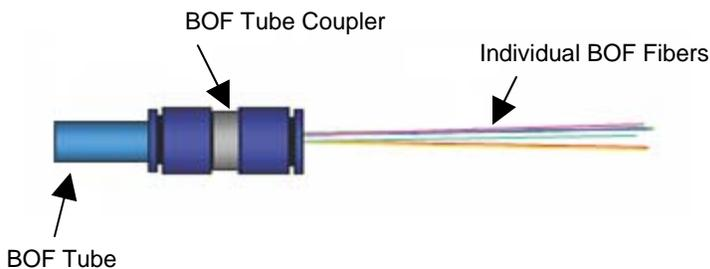

Figure 1
Step 1 – Insert the individual fibers or bundled fiber into the tube coupler. Slide the tube coupler over the fibers/bundle to the BOF tube. Slide the tube coupler onto the BOF tube and seat it firmly (Figure 1).